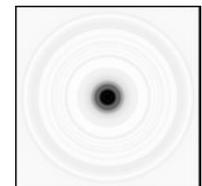

Figure 9 . Hybrid Lyot mask
- Hybrid Lyot mask for WFIRST(Fig 9)